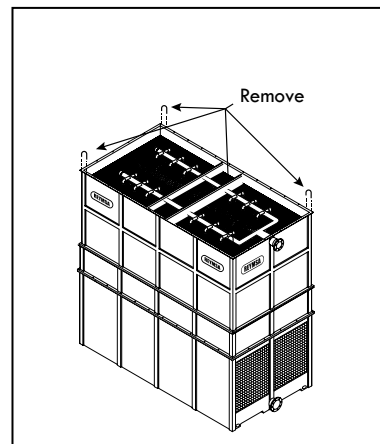

Figure A-113: Removing U-bolts from the Upper Body section of a modular tower (RTGMTC-G & RTGMTC-H)
- N. **Only for RTGMTC-G & RTGMTC-H models:** Remove U-bolts from top of the Upper Body section (see Figure A-113).